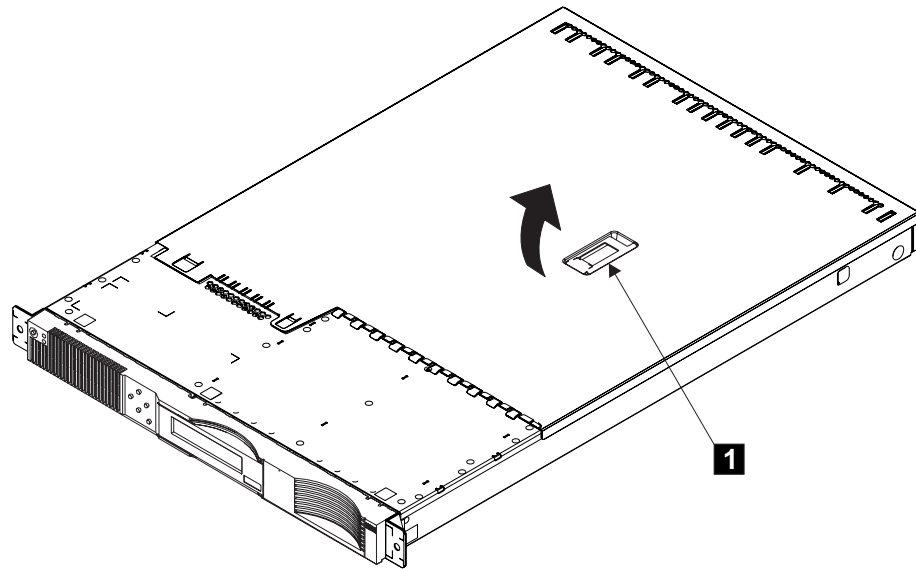

Figure 81. Removing the top cover
3. Lift the lever. See **1** in Figure 81. This action moves the top cover rearward approximately 13 mm (0.5 in).